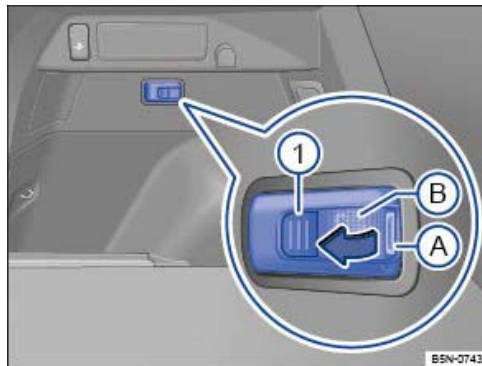

Fig. 223 On the left of the luggage compartment: removable light (depending on the vehicle equipment level).
When fitted, the removable light lights up in area → *Fig. 223*  when the boot lid is open.
- Grip the light in the front area → *Fig. 223*.
Pull light in the direction of the arrow out of the holder → Fig. 223.
The removed light lights up in area → Fig. 223 ⓘ . The light has 2 brightness levels:
- Press the light into the holder in the direction of the arrow → Fig. 223.
- Lever off the battery cover with a suitable tool under area → Fig. 223 ⓘ .